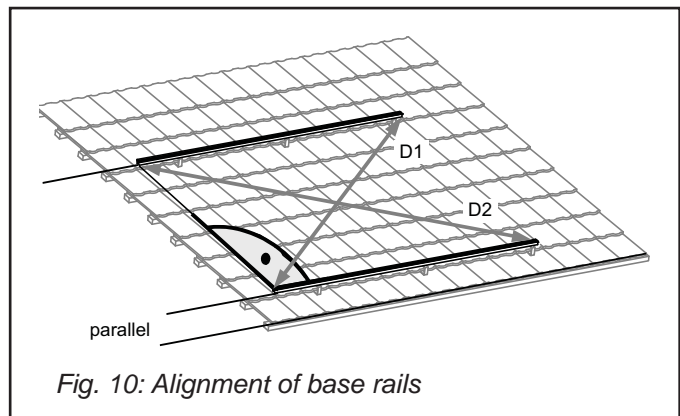

Fig. 10: Alignment of base rails
- Align the rails so that they lie in parallel to roof tiles. The diagonals between the rails must be of the same length: $D1 = D2$ (Fig. 10).